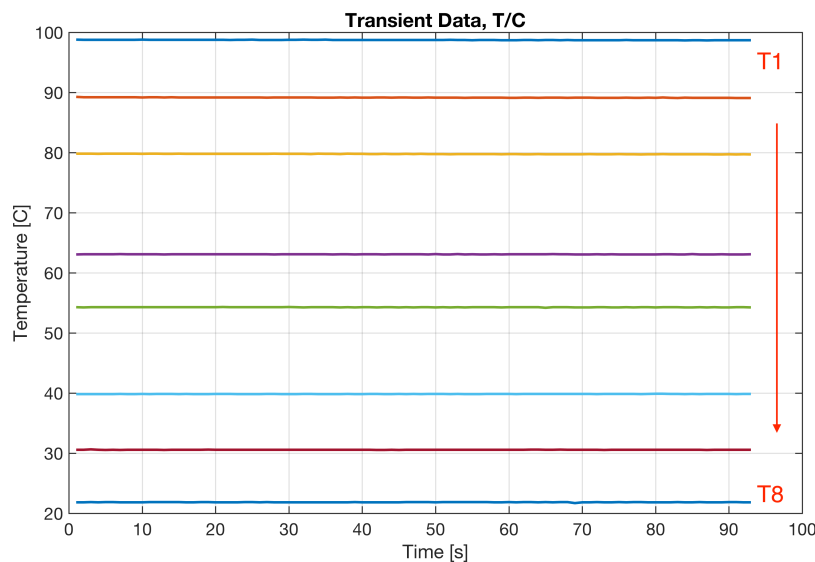

Figure 1: Transient temperature data
Now, if everything was done correctly, you should get something similar to Fig. 1 below.
- Does your plot match Fig. 1 above?
Checkpoint - If you had any difficulties obtaining Fig. 1, stop here and contact your Lab Instructor. You may run into more troubles ahead.